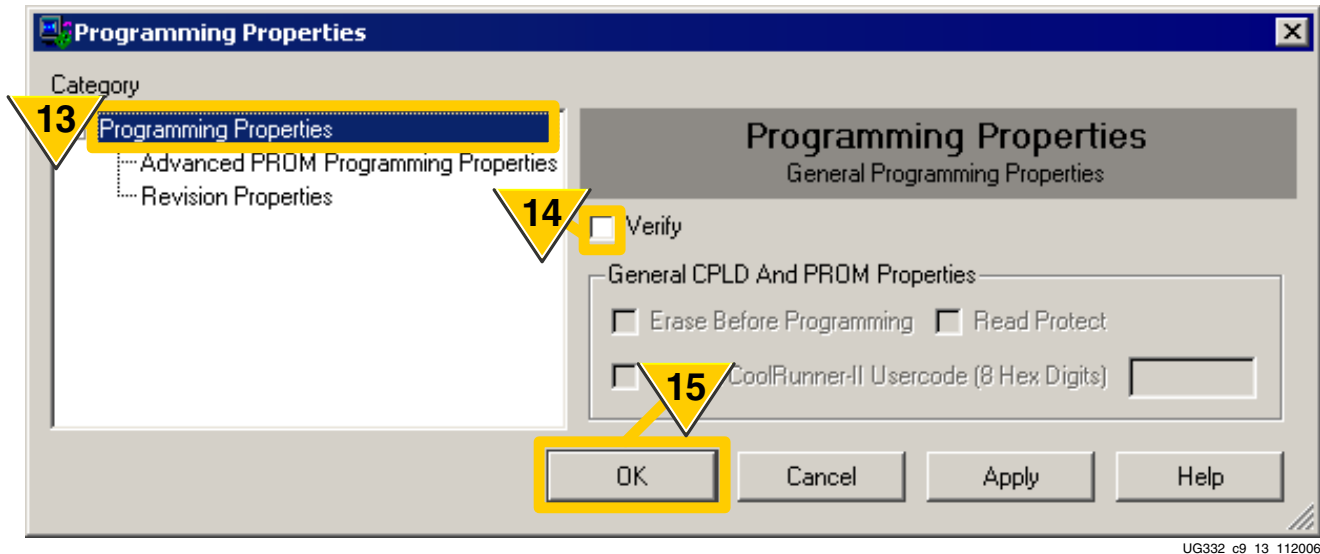

Figure 9-15: FPGA Programming Options
- The Programming Properties dialog box appears, as shown in Figure 9-15.